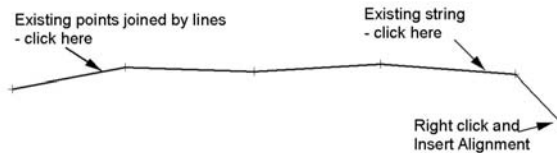

Figure 13-25. Alignment Created from Existing Lines or a String
Use the Create Alignment from Lines command to define a horizontal alignment from existing lines or strings (Figure 13-25). This procedure uses the lines or strings to define the “frame” of the alignment. The points defining these lines or strings will become intersection points (IP), which you can edit to define any curve parameter.